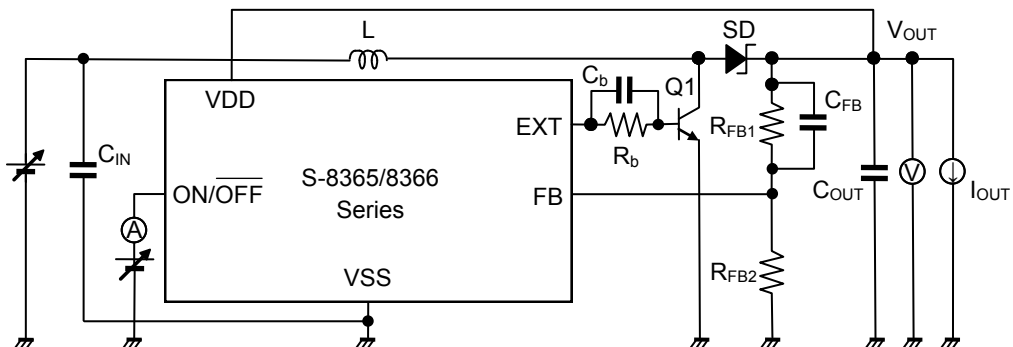

Figure 10
- *2. This is the guaranteed value measured with external parts shown in “Table 10 External Parts List” and with test circuits shown in Figure 10. The operating start voltage varies largely depending on diode’s forward voltage. Evaluate sufficiently with actual device.
*2. This is the guaranteed value measured with external parts shown in “Table 10 External Parts List” and with test circuits shown in Figure 10. The operating start voltage varies largely depending on diode's forward voltage. Evaluate sufficiently with actual device.